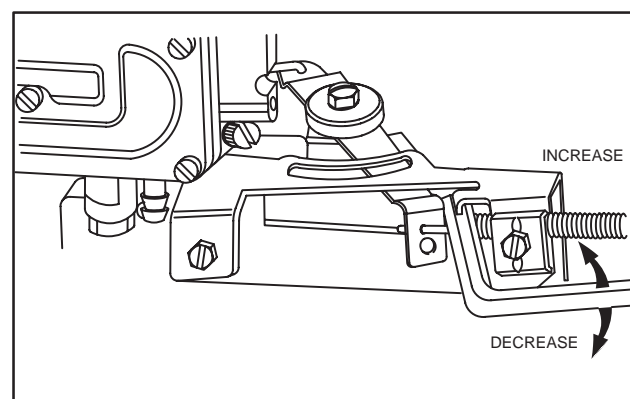

Fig. 36 – Adjust Top-No-Load
- Bend tang to obtain specified Top-No-Load RPM, Fig. 36.